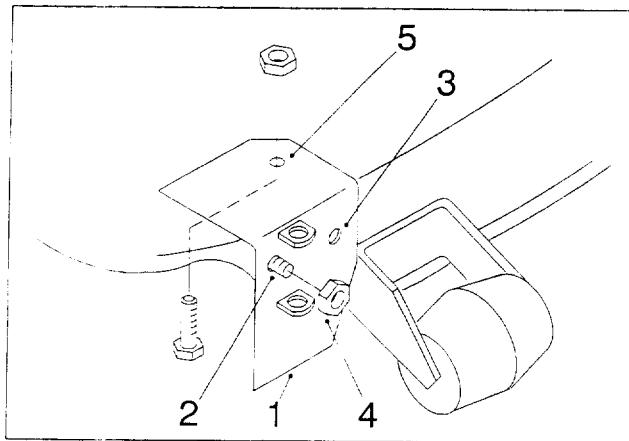

Figure 2
1. Slide the pivot support onto the threaded rod that is welded onto the front of the mower near the discharge opening (Fig. 2).
Note: The pivot support has one hole for mounting it to a $42''$ mower and a different hole for a $48''$ mower (Fig. 2). Use the hole for a $42''$ mower for this installation.
2. Screw the $3/8''$ deflector jam nut (Fig. 2) onto the threaded rod until the nut is flush with the end of the rod.
4. Drill an $11/32''$ diameter hole in the mower, using the hole in the pivot support as a template (Fig. 2). Remove the clamp after you drill the hole.